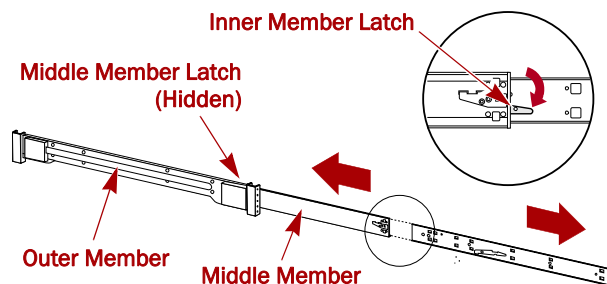

Figure 2. Inner Rail Release Latch
2. Remove the **inner rail** (Figure 2) from the rail set: